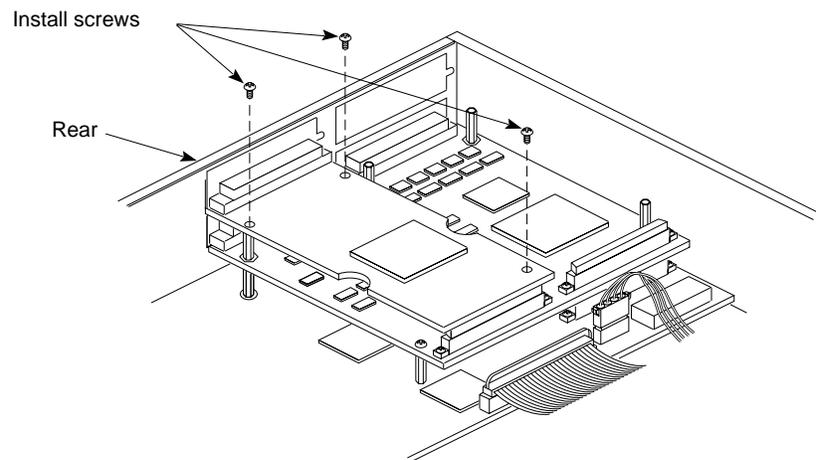

Figure 2-20 Installing the GIO Board
- Using a Phillips screwdriver, insert and tighten the screws you removed earlier to connect the GIO option board to the IOPLUS board, as shown in Figure 2-20. As you tighten the screws, alternate among them so that the torque on each is more or less even.